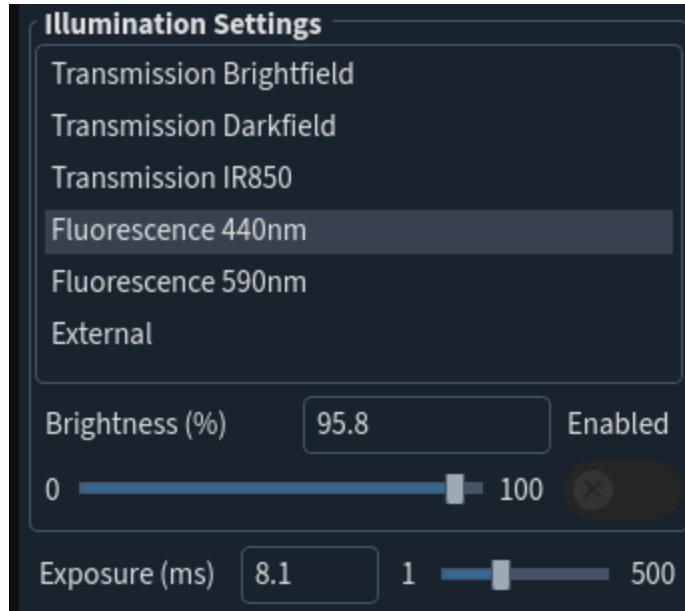

Fig 93: Fluorescent light switch when lights are off.
1. Disable Fluorescence in the GUI by clicking the switch below the Enabled label under the Illumination Settings (Fig 93).